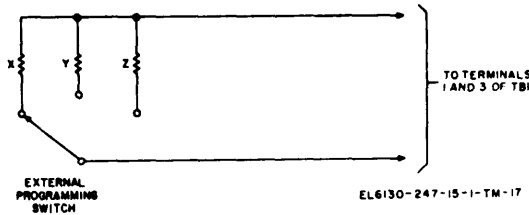

Figure 2-4. Power Supply PP-3940A/G, programing connections.
- Connect the resistors to an external programing switch as shown in figure 2-4.
- d. Connect the resistors to an external programing switch as shown in figure 2-4.